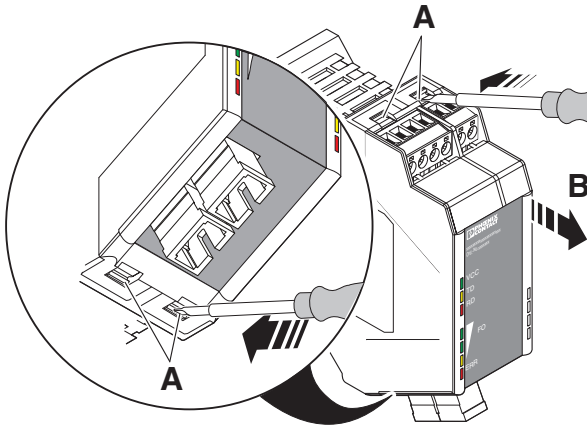

Figure 5 Opening the housing
- For configuration, release the housing cover using a screwdriver (A in Figure 5).
- Then carefully pull the PCB out of the housing as far as possible (B).